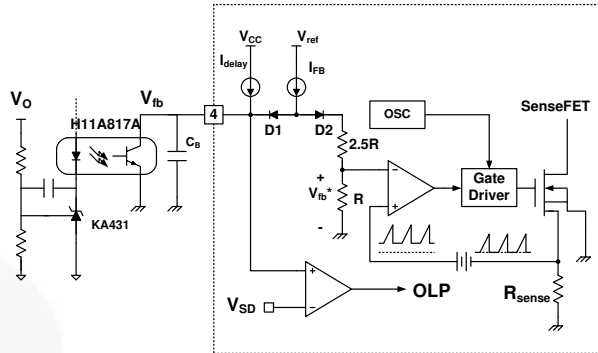

Figure 32. Pulse Width Modulation (PWM) Circuit
3. Feedback Control: The FSCQ series employs current mode control, as shown in Figure 32. An opto-coupler (such as Fairchild’s H11A817A) and shunt regulator (such as Fairchild’s KA431) are typically used to implement the feedback network. Comparing the feedback voltage with the voltage across the R_{sense} resistor, plus an offset voltage, makes it possible to control the switching duty cycle. When the reference pin voltage of the shunt regulator exceeds the internal reference voltage of 2.5 V, the opto-coupler LED current increases, pulling down the feedback voltage and reducing the duty cycle. This typically occurs when input voltage is increased or output load is decreased.
3.1 Pulse-by-Pulse Current Limit: Because current mode control is employed, the peak current through the SenseFET is limited by the inverting input of the PWM comparator (V_{fb}^*) as shown in Figure 32. The feedback current (I_{FB}) and internal resistors are designed so that the maximum cathode voltage of diode D_2 is about 2.8 V, which occurs when all IFB flows through the internal resistors. Since D_1 is blocked when the feedback voltage (V_{fb}) exceeds 2.8 V, the maximum voltage of the cathode of D_2 is clamped at this voltage, thus clamping V_{fb}^* . Therefore, the peak value of the current through the SenseFET is limited.